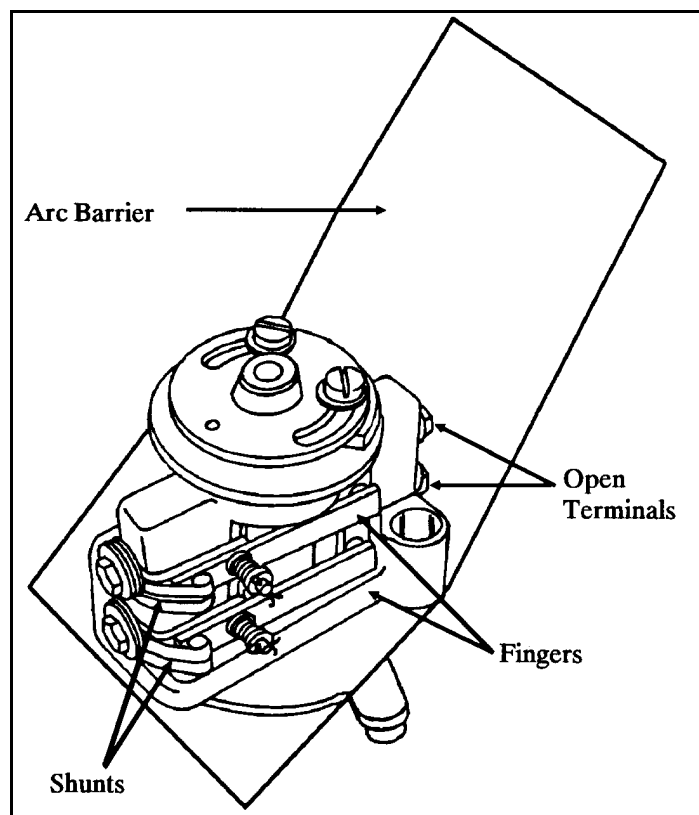

Figure 4-20 Torque Switch Inspection Points
8. Check that the arc barrier is intact and located between the open control power terminations and the actuator housing. (Figure 4-20)
9. Inspect the contact tension for a gap between the shunt and the corresponding finger. (Figure 4-20)